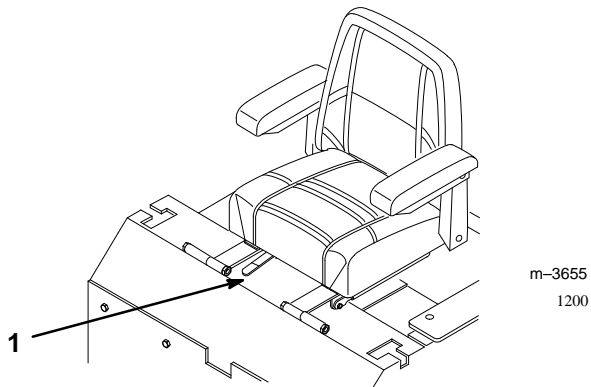

Figure 13
1. To adjust, move the lever sideways to unlock seat (Fig. 13).